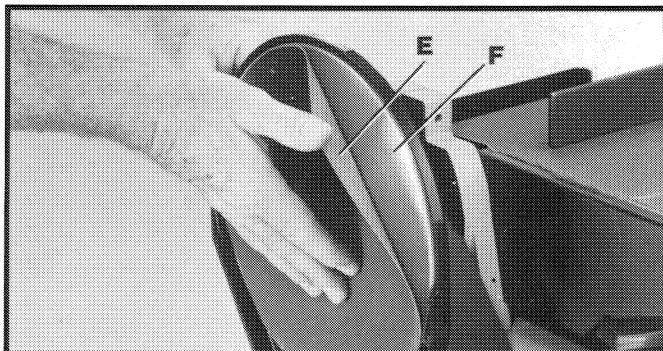

Fig. 46
4. Peel off old disc (E) as shown in Fig. 46.
5. Make sure the disc plate (F) Fig. 46, is clean and peel backing from new sanding disc. Press the new sanding disc firmly into position on disc plate (F) and replace lower cover and table assembly which were removed in STEPS 2 and 3.